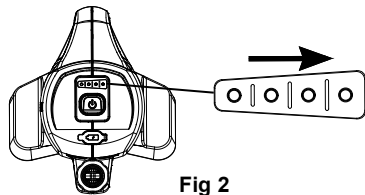

Fig 2
2. During charging, the battery indicator light will flash and light up according to the remaining charge in the battery. Four lights indicate full charge; three lights indicate good charge; 2 lights indicate low charge and one light flashing indicates that the battery must be recharged. See fig 2.